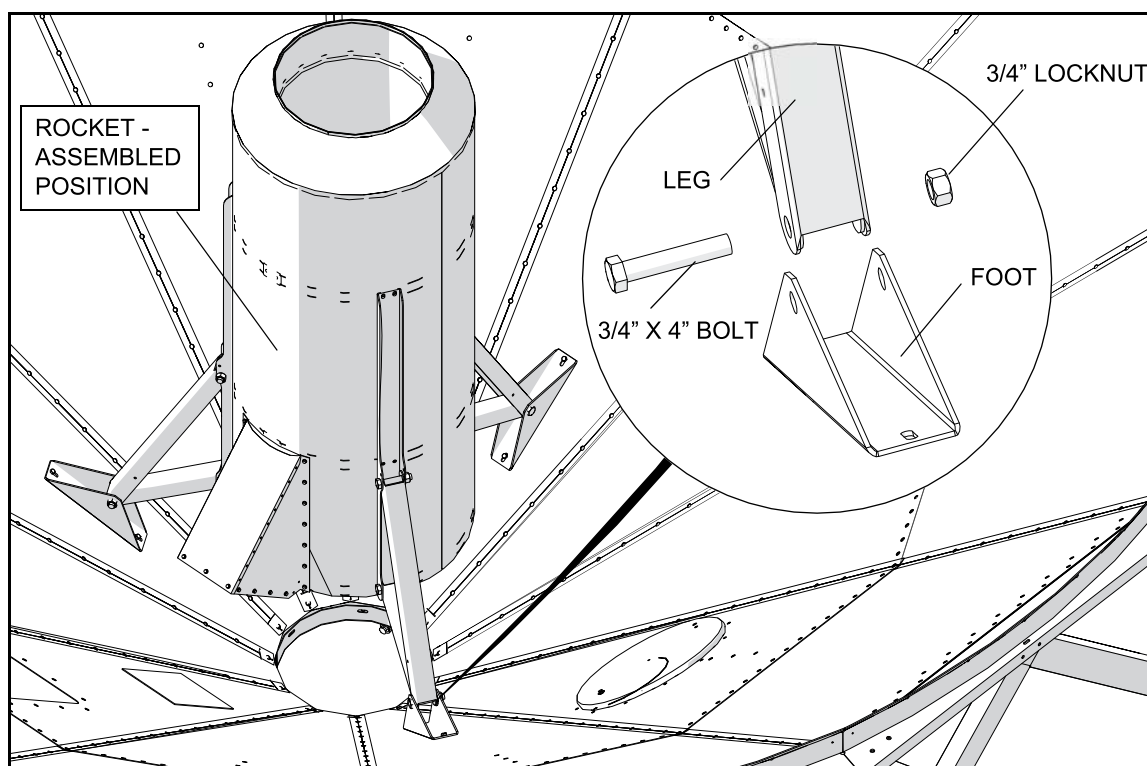

Figure 3.2
1. Attach feet to legs with 3/4 x 4" bolts and 3/4" locknuts as shown in Figure 3.2.